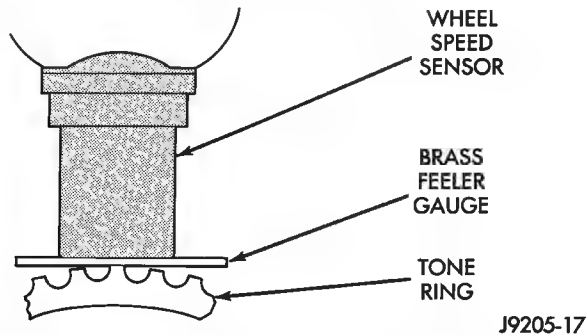

Fig. 10 Setting Air Gap On Original Rear Sensor
(4) Install sensor bolt finger tight only at this time.
(5) If **original** rear sensor was installed, adjust sensor air gap to 0.92-1.45 mm (0.036-0.057 in.). Use feeler gauge to measure air gap (Fig. 10). Tighten sensor bolt to 11 N·m (11 ft. lbs.) torque.